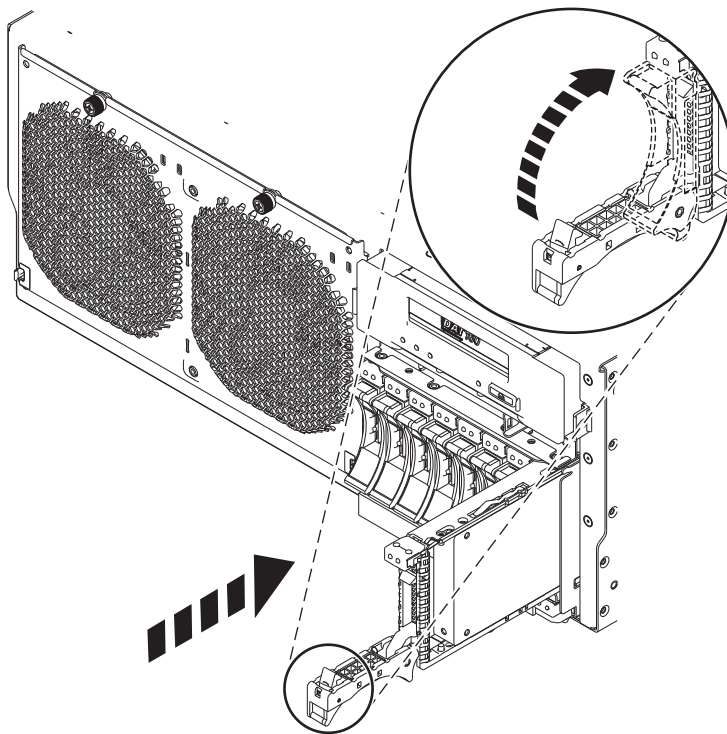

Figure 36. Installing a disk drive in the 8202-E4B, 8202-E4C, 8205-E6B, or 8205-E6C
12. When the service indicator starts flashing, slide the disk drive all the way into the system or expansion unit, and push the disk drive handle (A) in until it locks, as shown in Figure 36.